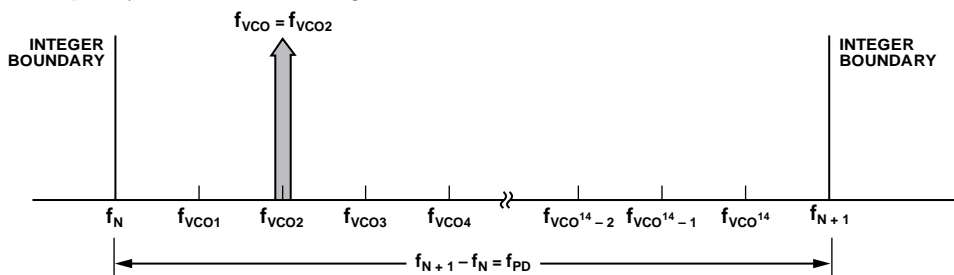

Figure 46. Exact Frequency Tuning
f_{VCOk} is the channel step frequency. $0 < k < 2^{24} - 1$, as shown in Figure 46.
Some fractional PLLs are able to achieve these exact frequencies by adjusting (shortening) the length of the phase accumulator (the denominator or the modulus of the Σ - Δ modulator) so that the Σ - Δ modulator phase accumulator repeats at an exact period related to the interval frequency ($f_{VCOk} - f_{VCO(k-1)}$) in Figure 46. Consequently, the shortened accumulator results in more frequent repeating patterns and, as a result, often leads to spurious emissions at multiples of the repeating pattern period, or at harmonic frequencies of $f_{VCOk} - f_{VCO(k-1)}$. For example, in some applications, these intervals may represent the spacing between radio channels, with the spurious occurring at multiples of the channel spacing.
When multiple, equally spaced, exact frequency channels are needed that fall within the same interval (that is, $f_N \leq f_{VCOk} < f_{N+1}$), where f_{VCOk} is shown in Figure 46 and $1 \leq k \leq 2^{14}$, it is possible to maintain the same integer-N (Register 0x03) and exact frequency register (Register 0x0C) settings and only update the fractional register (Register 0x04) setting. The exact frequency channel mode is possible when Equation 16 is satisfied for at least two equally spaced adjacent frequency channels, that is, the channel step size.
To configure the HMC832A for exact frequency channel mode, initially program the integer (Register 0x03) and the exact frequency (Register 0x0C) for the smallest f_{VCO} frequency (f_{VCO1} in Figure 46), as follows:
1. Calculate and program the integer register setting Register 0x03 = $N_{INT} = \text{floor}(f_{VCO1}/f_{PD})$, where f_{VCO1} is shown in Figure 46 and corresponds to the minimum channel VCO frequency. Then, the lower integer boundary frequency is given by $f_N = N_{INT} \times f_{PD}$.
where $f_N = \text{floor}(f_{VCO1}/f_{PD})$, and f_{VCO1} , as shown in Figure 46, represents the smallest channel VCO frequency that is greater than f_N .
4. To change from Channel 1 ($f_{VCO1} = 2800.2 \text{ MHz}$) to Channel 2 ($f_{VCO2} = 2800.3 \text{ MHz}$), only Register 0x04 needs to be programmed, as long as all of the desired exact frequencies, f_{VCOk} (see Figure 46), fall between the same integer-N boundaries ($f_N < f_{VCOk} < f_{N+1}$). In that case,